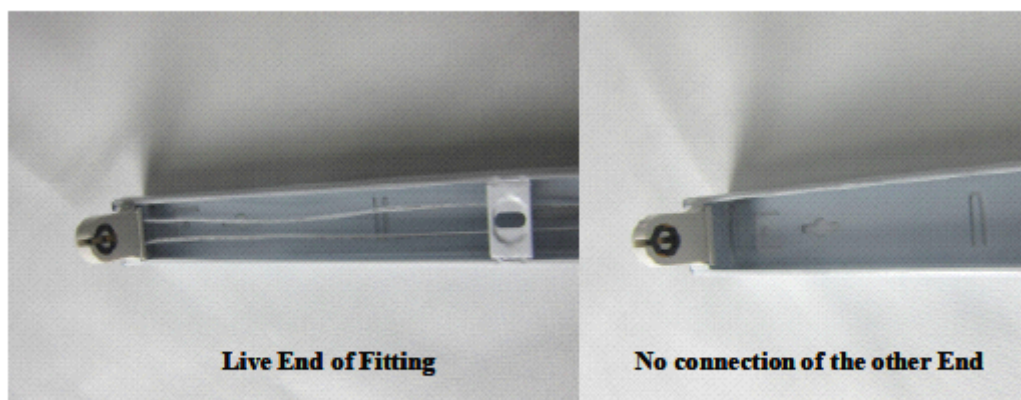

Figure5
STEP 2- Designate one side of the fitting sockets as the “live end” and mark it for future reference. Make sure to check the Tombstone Connector on the live end of the fixture for Isolated Continuity. Confirm there is no continuity in the two sides of the connector (figure 5).